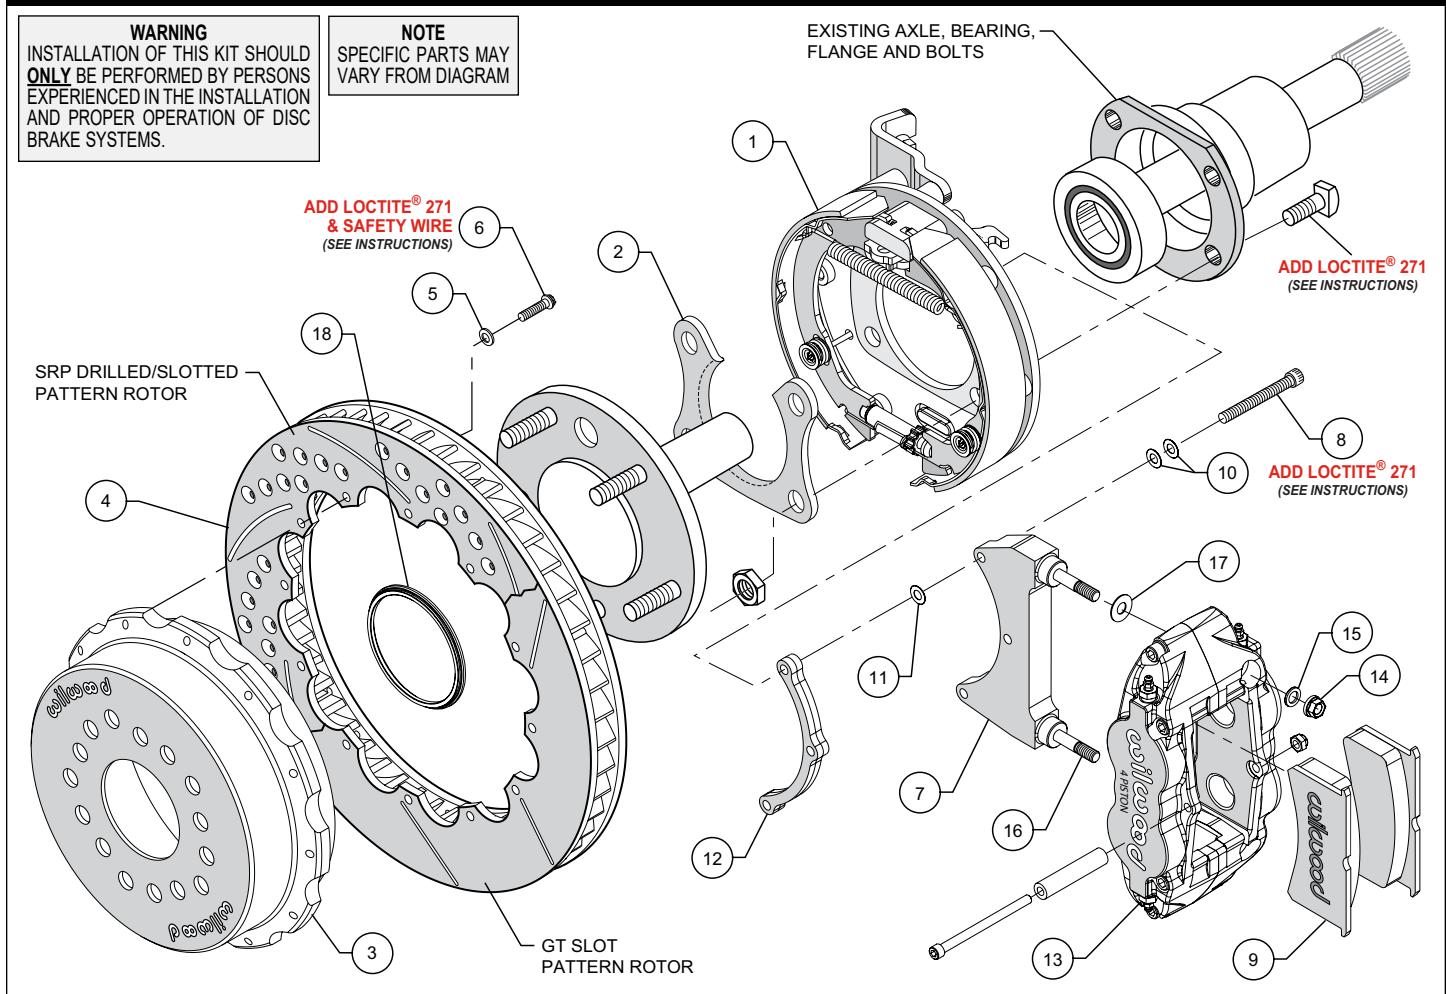

Figure 1. Typical Installation Configuration
- Slide the bracket kit assembly (1) onto the housing flange and then insert the axle assembly through the center hole of the bracket kit assembly (1). Align the bearing retainer (2) as shown in figures 1 and 4, and secure using the stock Original Equipment Manufacturer (OEM) bolts and nuts. Stock OEM hex nuts that retain the bracket kit assembly (1) and retainer (2) should be on the wheel side of the bracket. Apply red *Loctite*® 271 to the stock OEM bolt threads and torque to OEM specifications. Make sure the bracket kit assembly (1) brake pads are FACING OUTWARD TOWARDS THE WHEEL.
• **NOTE:** Please reference the caution statement at the beginning of the assembly instructions. The caliper mounting bracket assembly (7) should be installed first with clean, dry threads on the mounting bolts (8). Install the bracket from the rear side of the bracket kit assembly (1) by sliding bolt (8) through two flat washers (10), bracket (7), shim washer (11) and finally through the spacer (12), see Figure 1. **NOTE: End of bolt should not exceed inside face of insert. The bracket must tighten squarely against the back side of the bracket kit assembly (1).** Inspect for interference from casting irregularities, machining ridges, burrs, etc. Use one thin shim (11) between the bracket (7) and spacer (12) during initial trial fitting.
• Install one washer (17) over each pre-installed stud (16) on the radial mount bracket (7). Slide the caliper (13) in place over the studs and rotor, then install the washer (15) and lock nut (14) to hold the caliper in place. Snug the lock nuts (14) and check that the rotor (4) is centered in the caliper (13). Add or subtract .015" shims (11) as necessary between the caliper mounting bracket (7) and the spacer (12) to center the caliper (13).
• Remove the caliper center bridge pad retainer bolt, nut, and tube from the caliper. Slide the brake pads (9) into place. They should install easily without interference. Check that the outside radius of the brake pad is aligned with the outside diameter radius of the rotor face. Add or subtract shims (17) between the caliper (13) and mount bracket (7) to gain the proper alignment. Reinstall the center bridge pad retainer tube, bolt, and locknut. The locknut should be snug without play in the bolt or tube. Be cautious not to over tighten.
• Adjust the parking brake shoes outward (using a drum shoe adjustment tool available at your local auto parts store) while spinning the hat (3) until a slight drag is felt against the hat/drum. Remove the lug nuts that were holding the hat/rotor in place. Install the wheel and lug nuts. Check to see that the wheel rotates freely without interference.
• Once all clearances have been checked, remove the wheel, caliper, hat/rotor from the bracket kit assembly (1). Secure the caliper mounting bracket (7) to the bracket kit assembly (1) using red *Loctite*® 271. Torque bolts (8) to 180 in-lb. Reinstall the hat/rotor assembly and again use lug nuts to hold it in place. Reinstall the caliper and torque the caliper nuts (14) to 30 ft-lb.
• **NOTE:** Clevis and cable kits which attach to the parking brake assembly are not included in the Wilwood parking brake kit. Wilwood offers a generic style parking brake cable kit, P/N 330-9371 for this application which can be ordered separately from your local Wilwood dealer or by calling Wilwood customer service at (805) 388-1188.